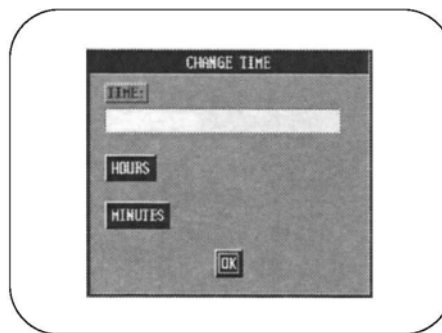

Figure 3-26: Set Time Pop-up Screen
2. Check the date and time displayed. If the time is incorrect, press the TAB key to CHANGE TIME and press the ENTER key. This will display the Set Time Pop-up Screen (*figure 3-26*).